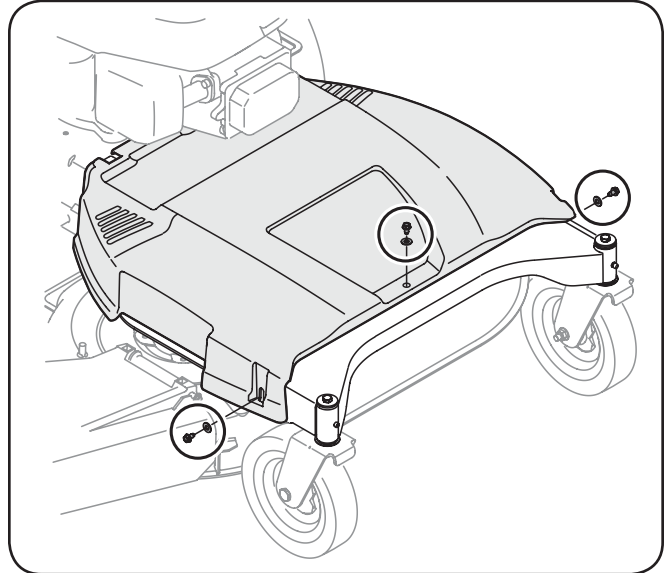

Figure 6-5
1. Remove the belt cover by removing the three screws and washers which secure it to the frame. See Fig. 6-5.